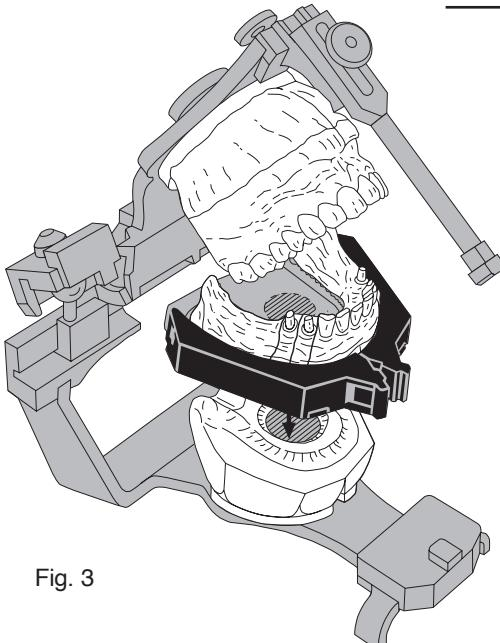

Fig. 3
4. Remove model from articulator. Peel away prefabricated Spacer (Fig. 3).